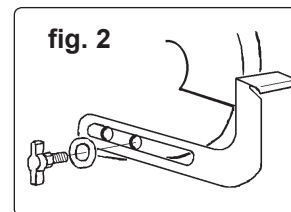

fig. 2
3.3.2. Fit tool rest to lower left hand side of 5" wheel guard so that slotted hole is over the two threaded bosses on the guard. Retain in position with thumb screw and washer (fig. 2).